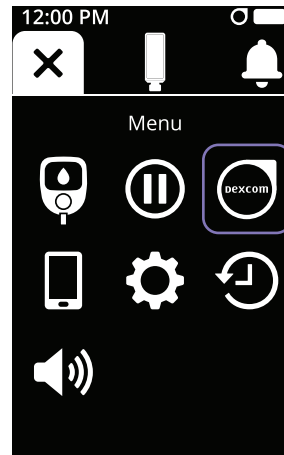

Figure 77
- Tap the **CGM** icon (see Figure 77)